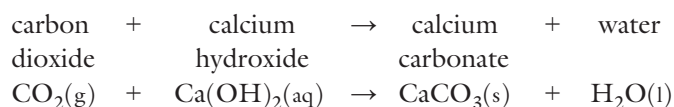

Figure 13.17 When magnesium burns in carbon dioxide gas, magnesium oxide (white) and carbon (black) are produced.
- It will support the combustion only of strongly burning substances such as magnesium. This burning reactive metal decomposes the carbon dioxide to provide oxygen for its continued burning in the gas. This reaction is accompanied by much crackling (Figure 13.17).